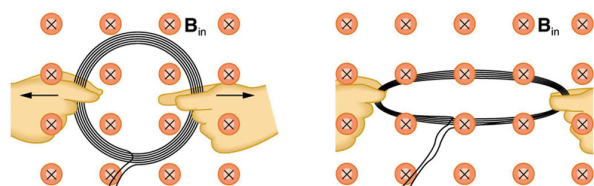

FIGURE 23.51 A circular coil of wire is stretched in a magnetic field.
4. Is an emf induced in the coil in Figure 23.51 when it is stretched? If so, state why and give the direction of the induced current.